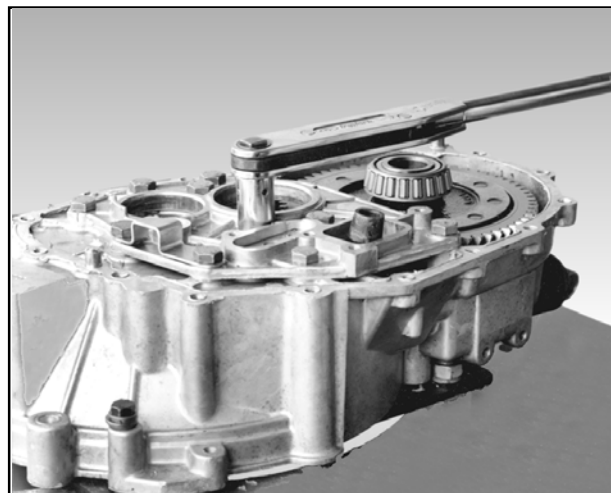

Fig. 31
9. Assemble intermediate plate along with stopper plate (reverse idler gear by means of mounting bolts). Tighten the bolts to 3.2 to 3.8 mkg torque. Fig. 31